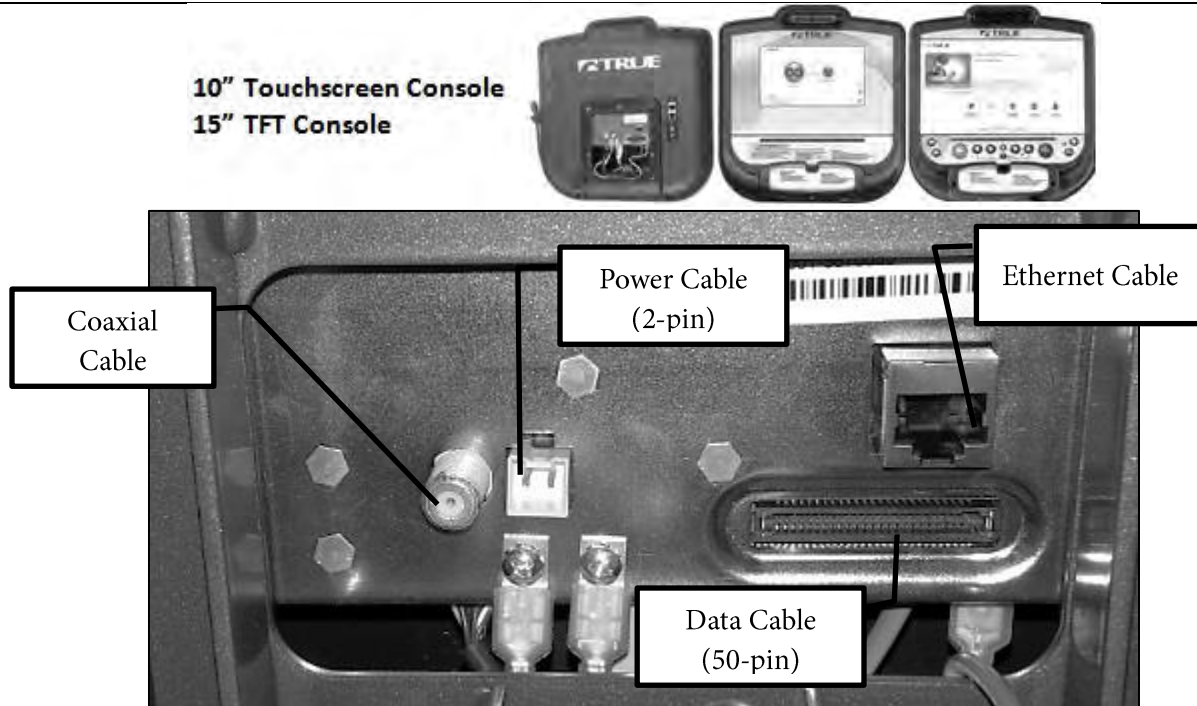

Figure 25
- Verify connection. Figure 25